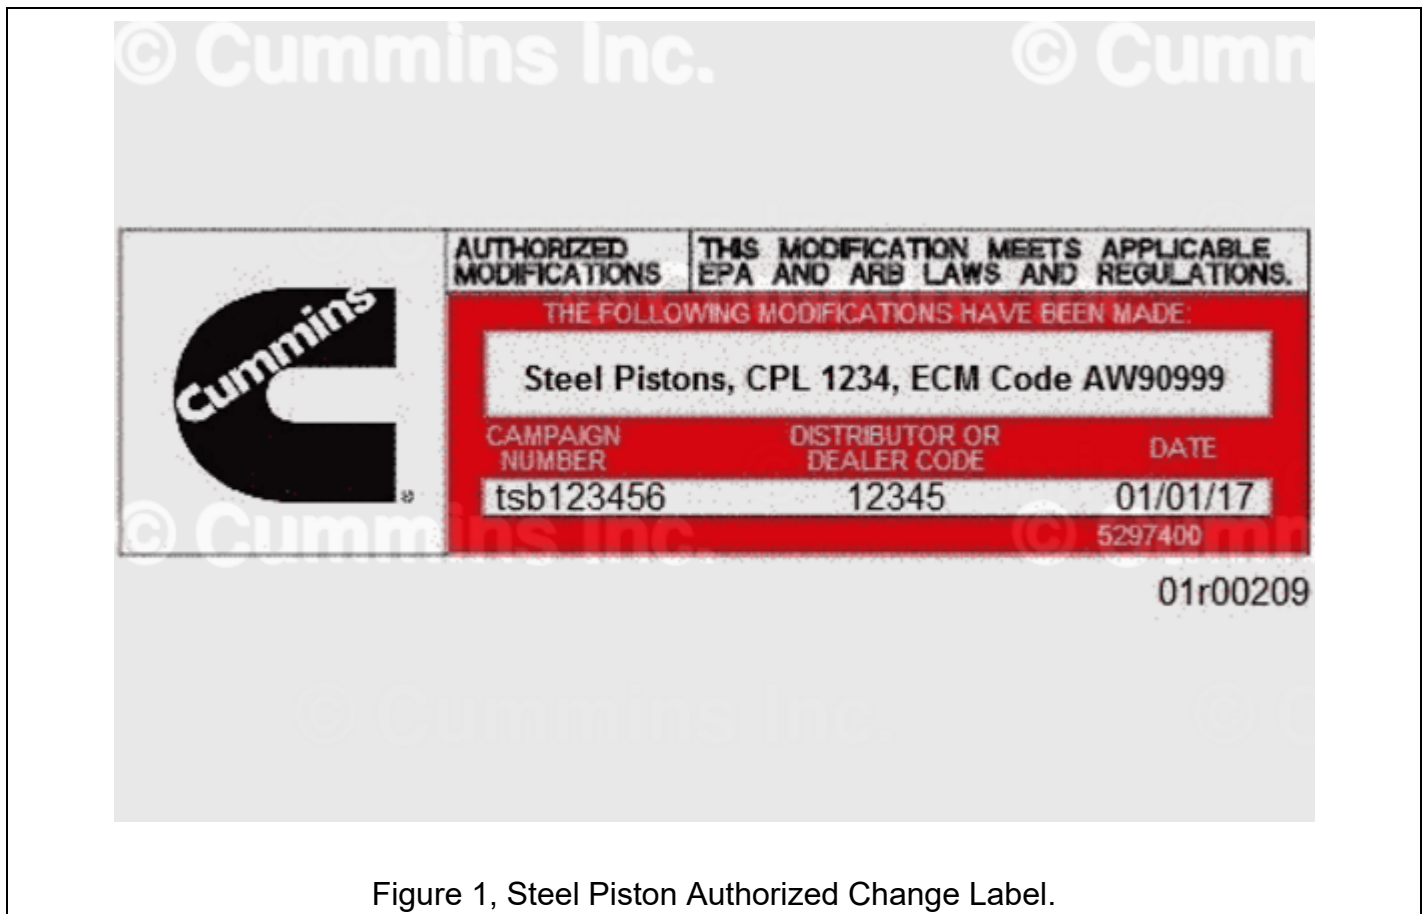

Figure 1, Steel Piston Authorized Change Label.
- Upon completion of the conversion from aluminum to steel pistons, an authorized change label, Part Number 5297400 **must** be completed and installed on the engine. See Figure 1 below.